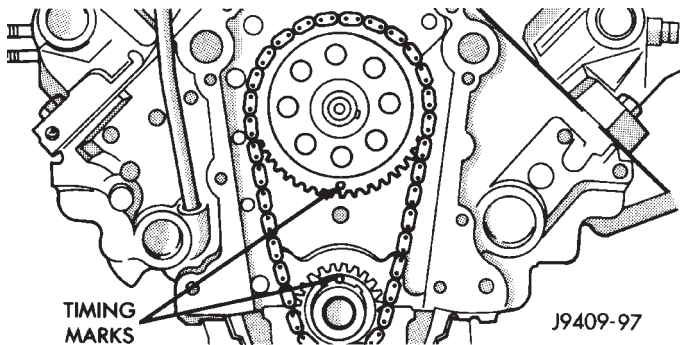

Fig. 7 Alignment of Timing Marks
- (7) Place timing chain around both sprockets.
- (8) Turn crankshaft and camshaft to line up with keyway location in crankshaft sprocket and in camshaft sprocket.
- (9) Lift sprockets and chain (keep sprockets tight against the chain in position as described).
- (10) Slide both sprockets evenly over their respective shafts and use a straightedge to check alignment of timing marks (Fig. 7).